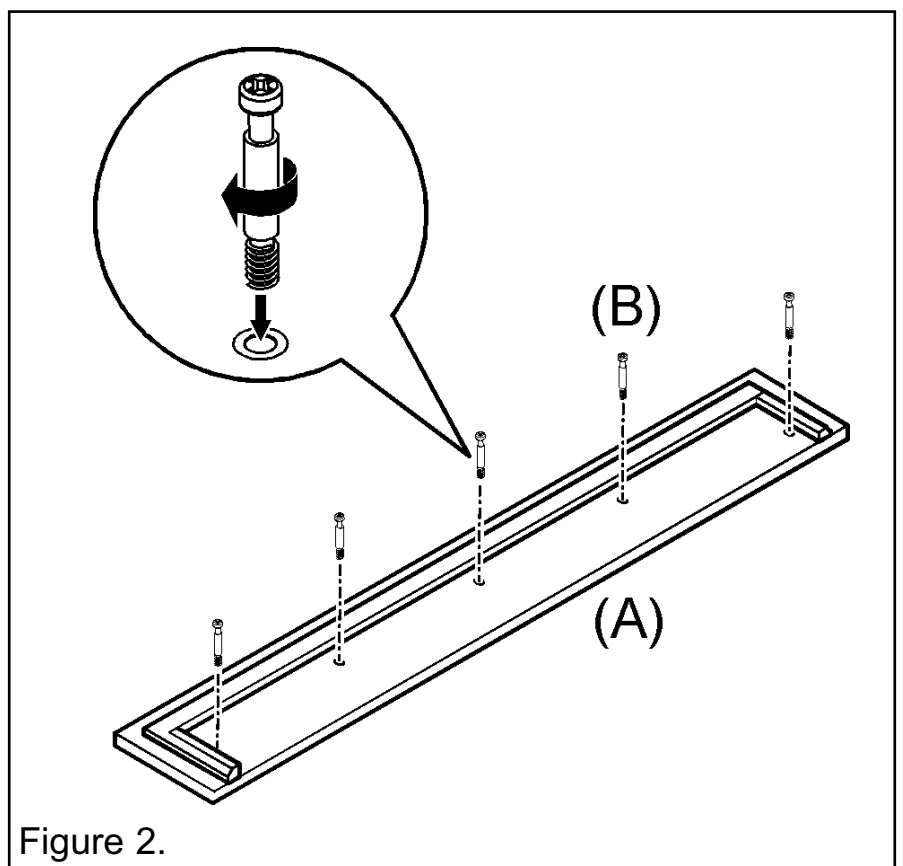

Figure 2.
- Lay the surround top (A) face down on a clean, flat, non-marking surface as in figure 2.
- Locate and screw the five cambolts (B) into the surround top (A) (See figure 2).